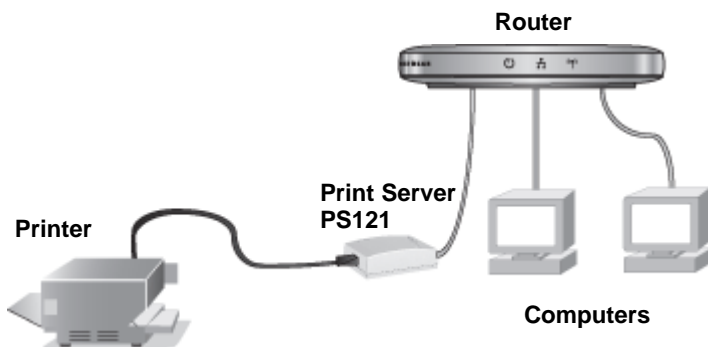

Figure 2-1
- f.** Verify that your computers are connected to LAN ports on your router, as shown in Figure 2-1 on page 2-2.